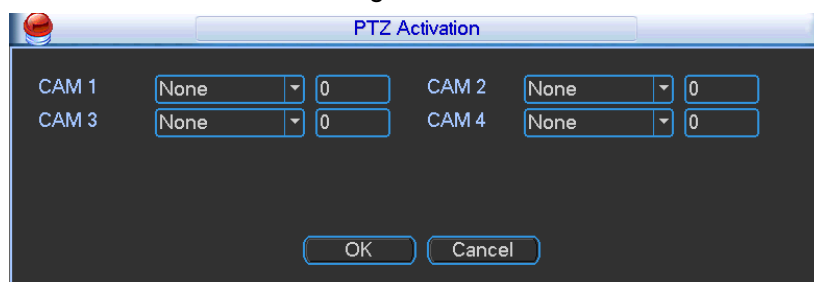

Figure 4-60
- PTZ activation: Here you can set PTZ movement when an alarm occurs. System can go to a preset, when there is an alarm. Click “select” button, you can see an interface is shown as in Figure 4-60.